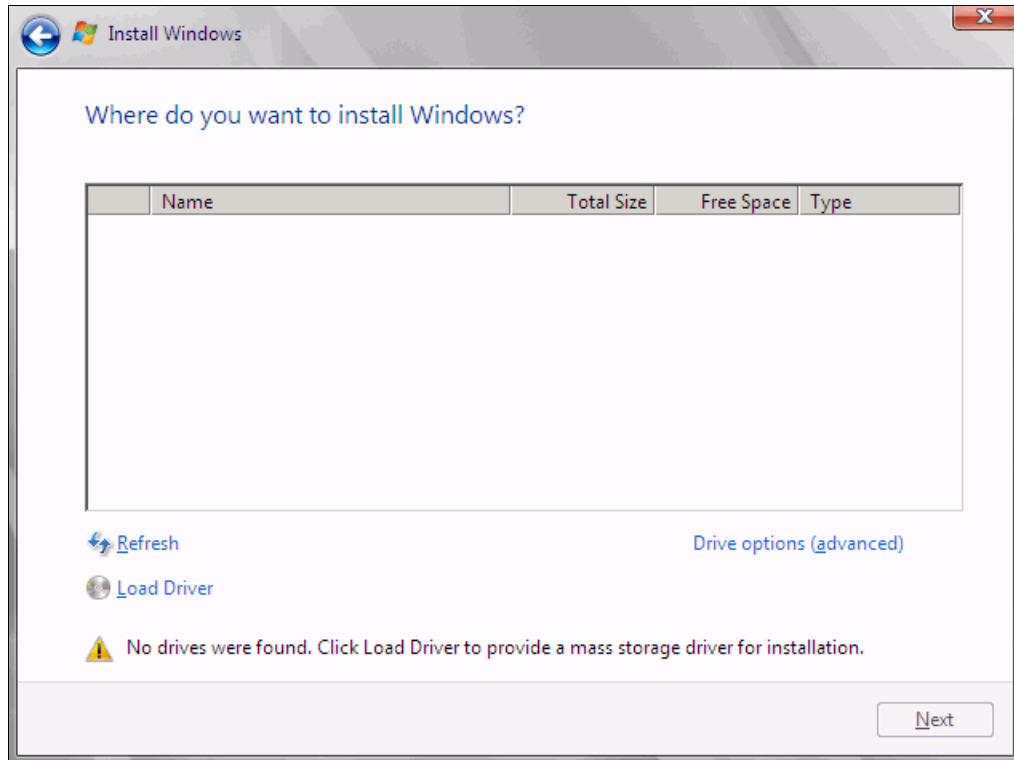

Figure 9-181 No drives found message
15. If no disks are displayed (Figure 9-181), insert the media that contains the drivers. The media can be in the form of a USB key, CD, or DVD, on a remotely mounted ISO. Then click **Load Driver** to load a driver for your storage device (QLogic card).